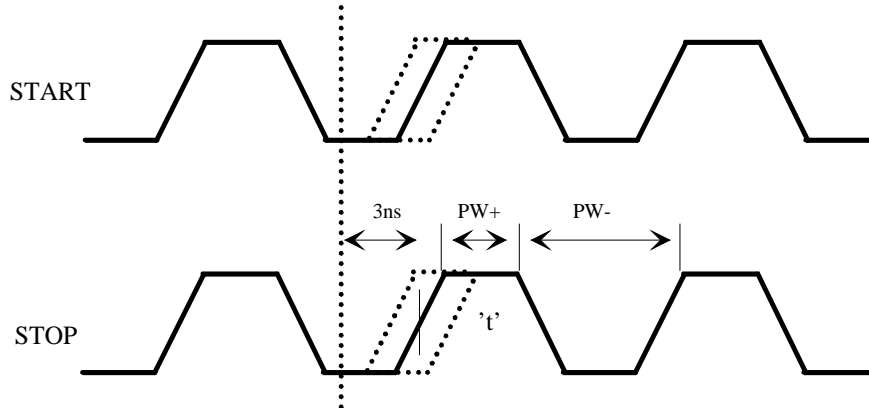

Figure 2-16. Example 3 - Getting Both Positive & Negative Readings
- 2) If in EXT Arm mode, a test testup is configured such that the EXT Arm signal is placed near the edge of the Arm window shown in Figure 2-16.